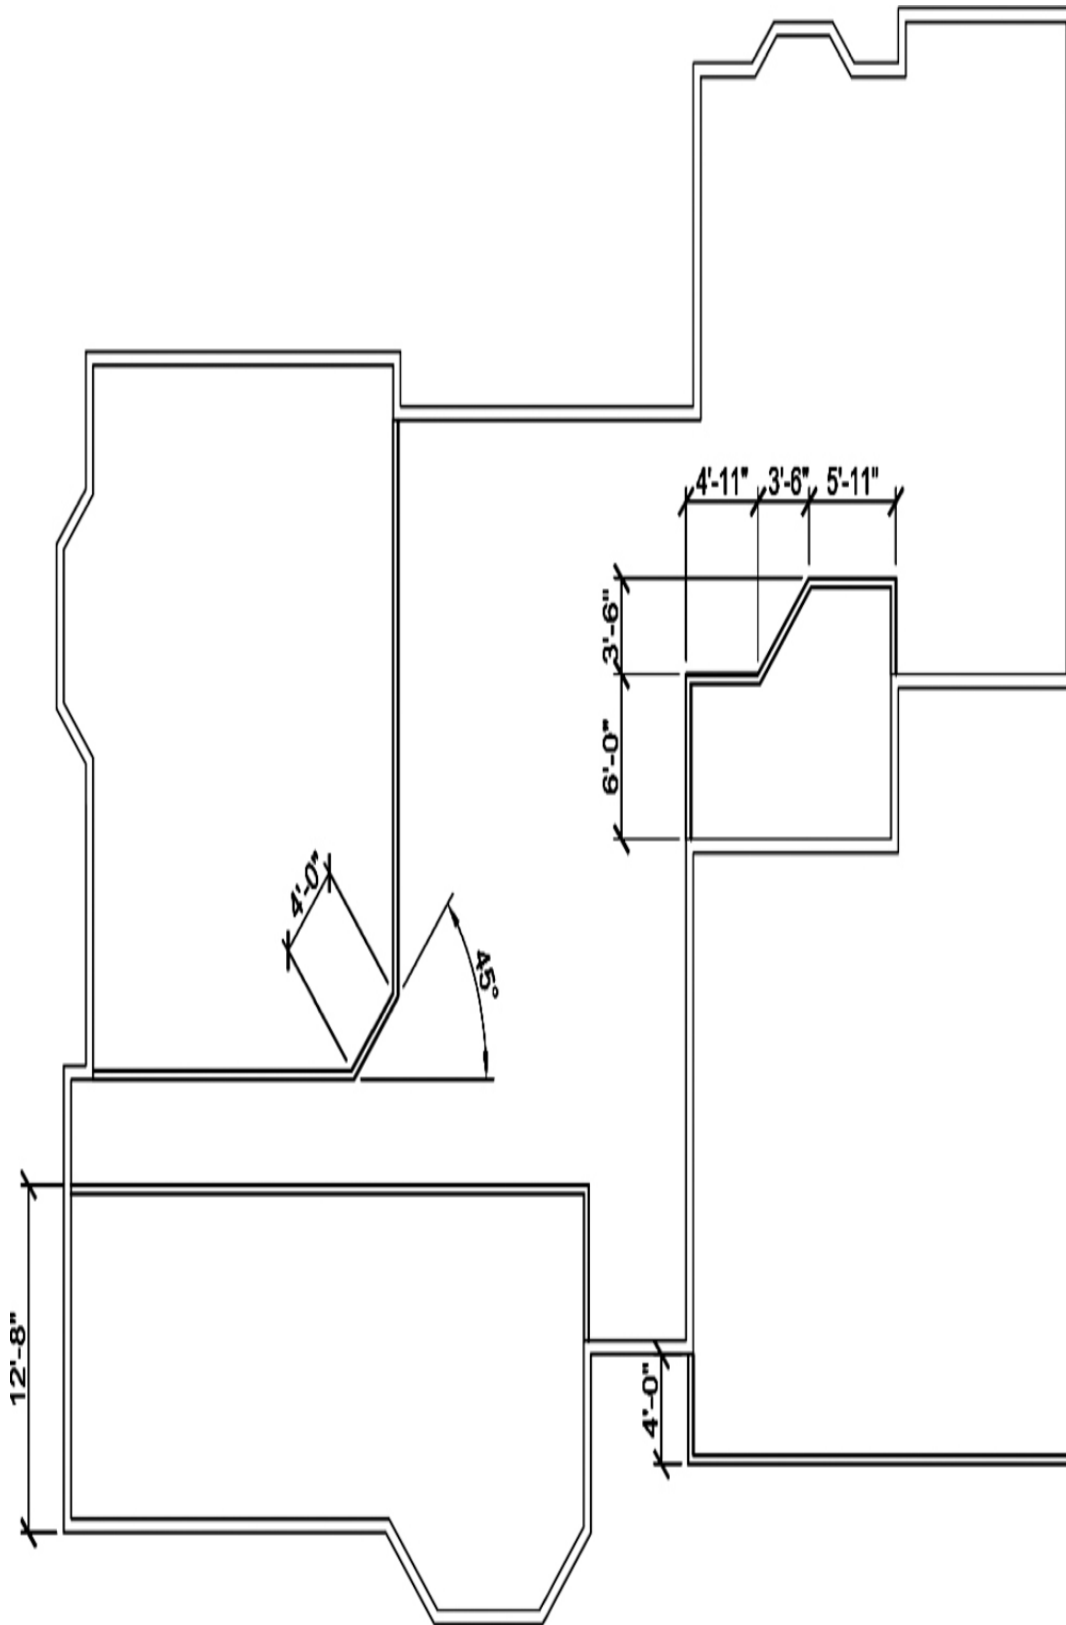

Figure 5-74
2. Draw the additional walls as shown in Figure 5-74. All new walls are 4" thick. Use the appropriate object snap, **Ortho**, and polar tracking settings to ensure there are no gaps in the geometry and the walls are at the correct angle and location. **Do not** draw dimensions or text. *Hint:* Use the **Offset** option of the **XLINE** command to locate walls.